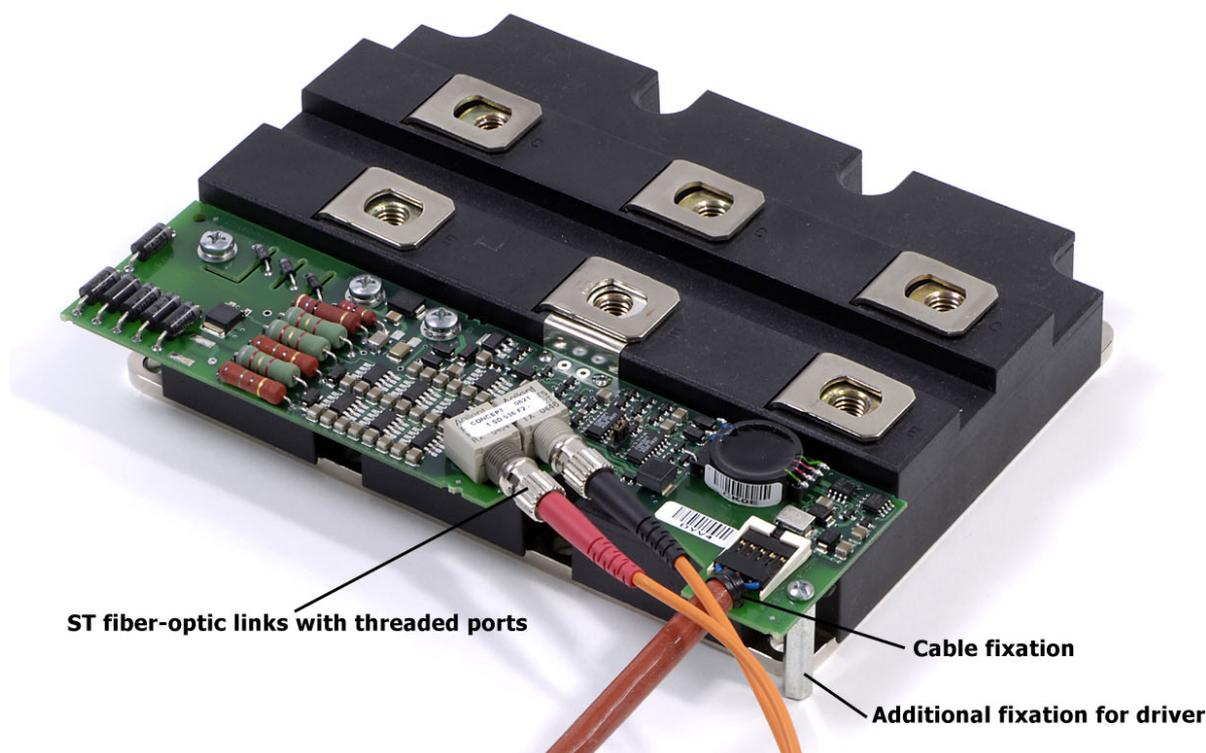

Fig. 17 Additional measures for fixing driver and power-supply cables as well as the ST optical fiber with a threaded port (Opt. 1)
Basically, the power-supply plug provides a mechanical interlock. If desired, the supply cables could also be fixed at the driver board (see Fig. 16 and Fig. 17).
- a) Screw-fitting of the driver board to the cooler (see Fig. 16 and Fig. 17)
- b) Bonding the driver board (bottom side) to the IGBT module. Furthermore, an interlocking version of the fiber optic links is also deliverable (see Fig. 16) and ST fiber-optic links with threaded ports may also be supplied (Opt. 1) (see Fig. 17). For the type, refer to the data sheets /1/